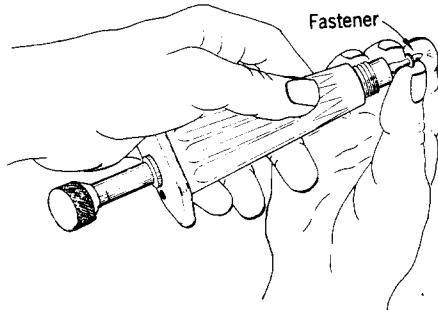

Fig. 5 – Fastener Placement
- (1) Remove drill holder and extractor. Pull ram out far enough so that the washer of the masonry fastener will be properly seated in the recessed end of the tool. See Fig. 5.